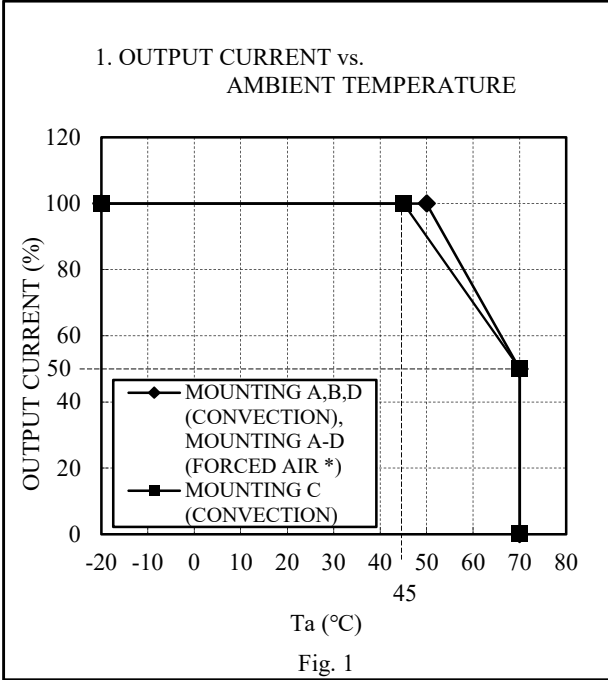

Fig. 1
1. Derating is necessary to output current in case of ambient temperature more than 50°C. (Fig.1)